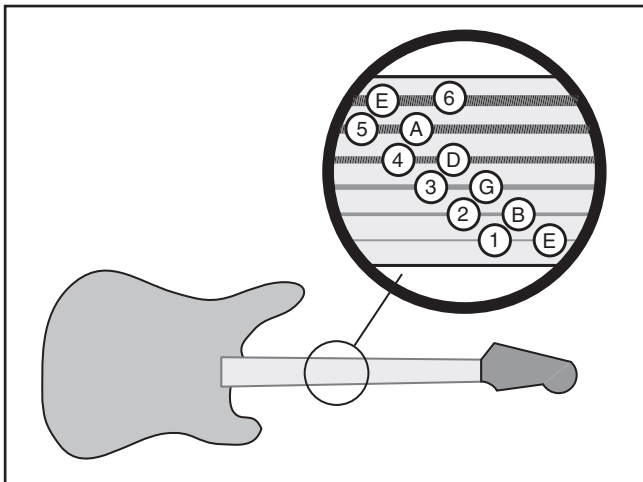

Figure 31. Standard tuning.
3. Play an open (non-fretted) 6th string (**Figure 31**) and adjust the tuner to match the Low E.